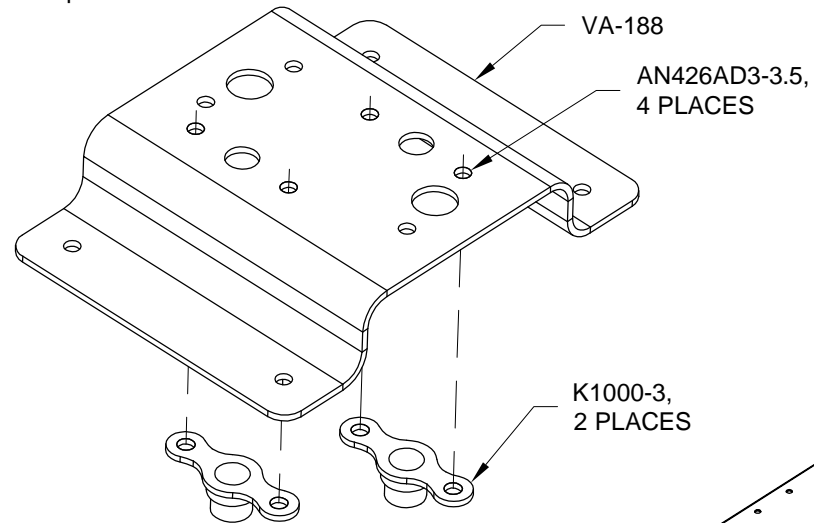

FIGURE 1: INSTALLING NUTPLATES
Step 1: Install nutplates to the VA-188 FLO-SCAN Mount Bracket per the call-outs in Figure 1.